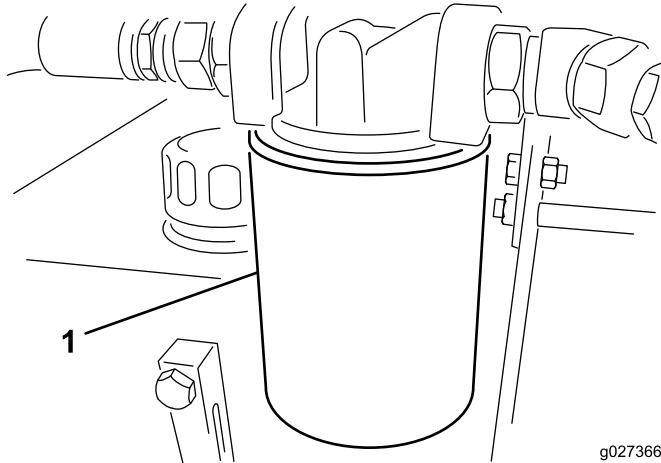

Figure 11
- Place a drain pan under the filter and remove the filter (Figure 11).